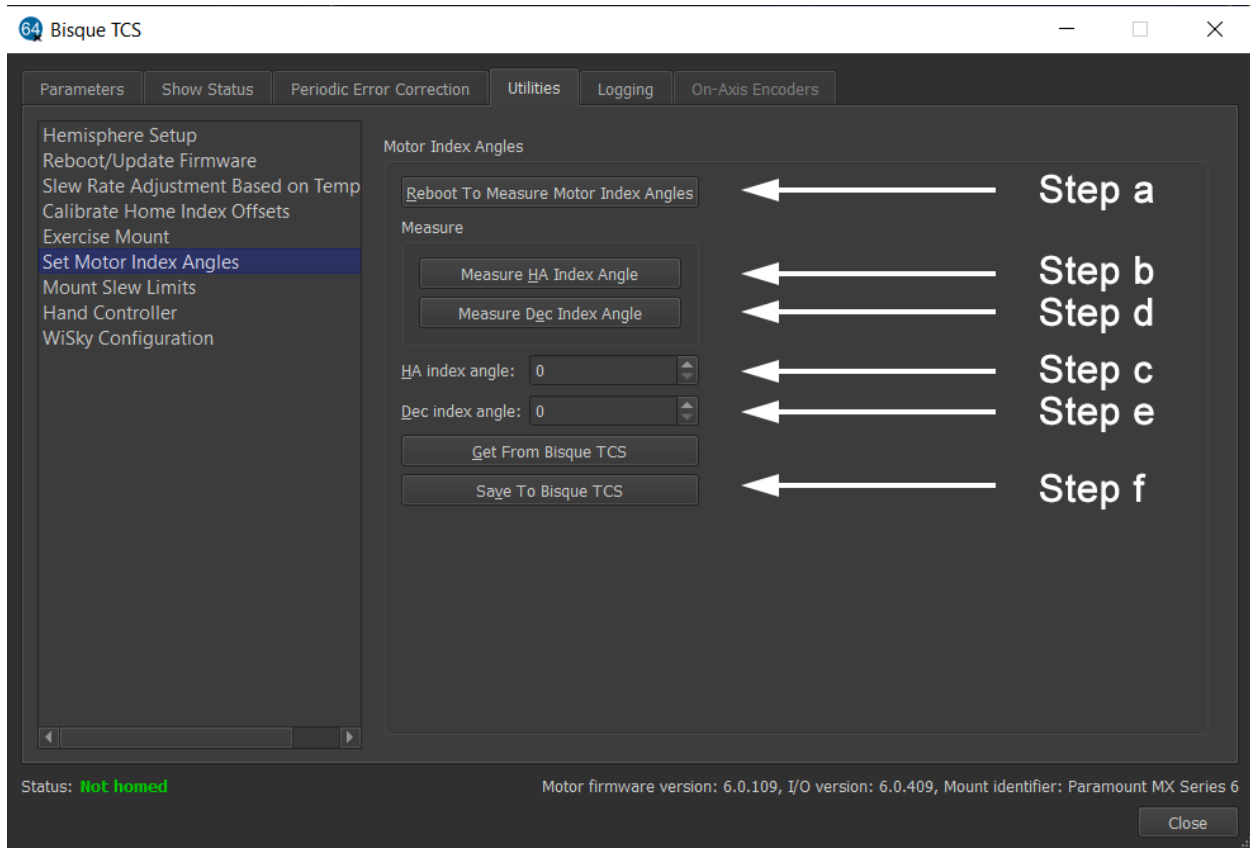

Figure 108: Follow Steps a-f to measure and save the motor index angles for both axes.
8. Click the **Utilities** tab and highlight the **Set Motor Index Angles** option on the left side of the window. The steps below are highlighted in Figure 108.